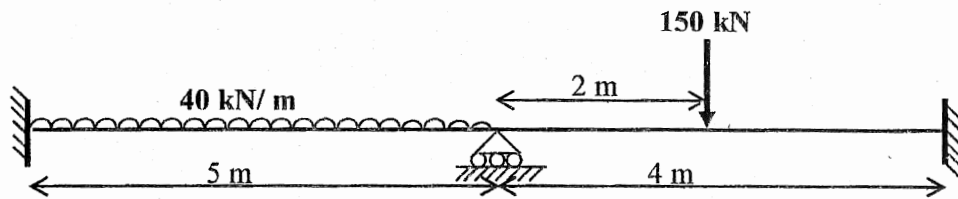

Fig.8
8. Analyse the continuous beam loaded as shown in Fig.8 and also the intermediate support sinks by 10 mm. Draw the shear force and bending moment diagrams. Assume the flexural rigidity is constant.